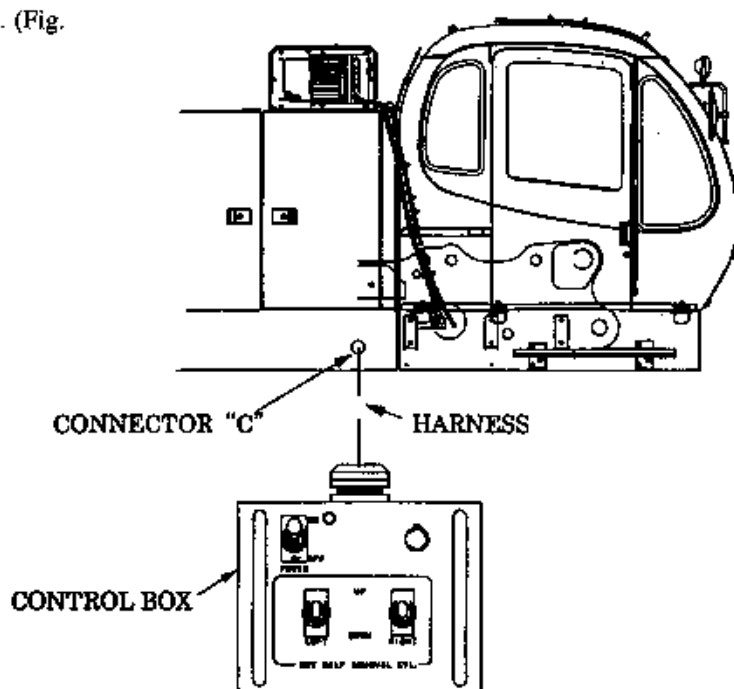

Fig 5-8
- (2) Stop the engine. Then, open the right guard door, and connect the control box to the connector. (Fig. 5-8)